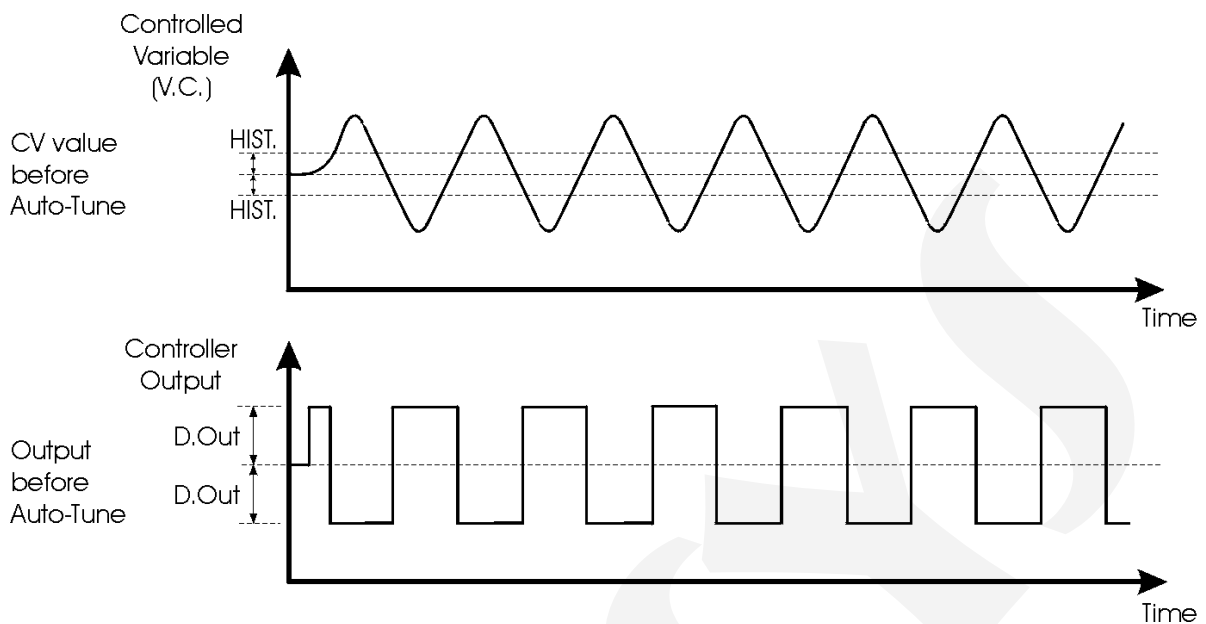
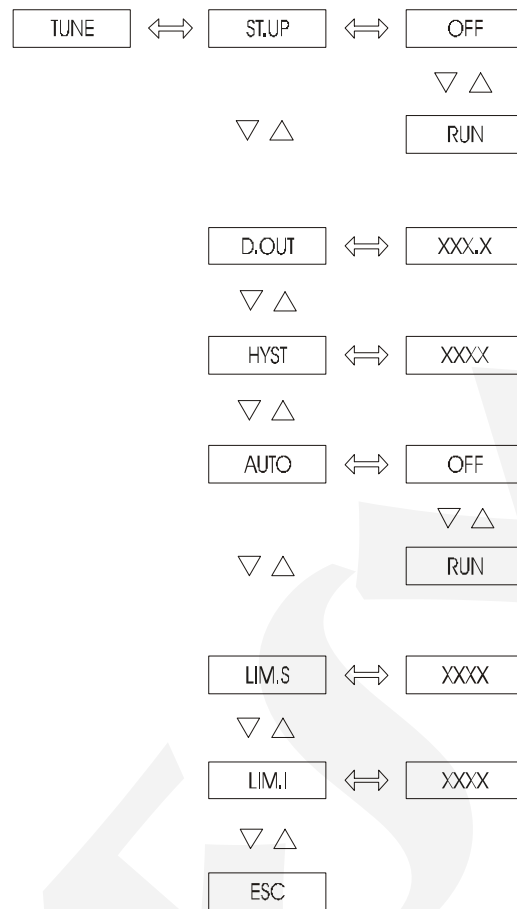

Fig. 27 - Process variable and control output for on demand auto-tune
Fig. 28 - TUNE Level Options
Whenever the auto-tune on demand is activated, the controllers start generating a square wave in their control outputs with an amplitude selected by the user (D.Out), centered on the output value, in order to cause oscillations on the controlled process, as illustrated on figure 28. Based on such oscillations, on the controlled process, as illustrated on figure 27. Based on such oscillation the auto-tune algorithm computes the PID parameters and from that moment on the plant is controlled by those new parameter values.
- iii) to select the amplitude of the square wave (D.OUT) and of the hysteresis (Hist), see figure 27.
Note that as soon as the third step is completed the controllers will go to normal operation mode with the TUNE message and the controlled variable alternating on the upper display. Upon completion of the auto-tune cycle the instrument no longer displays the TUNE message (see figure 28).